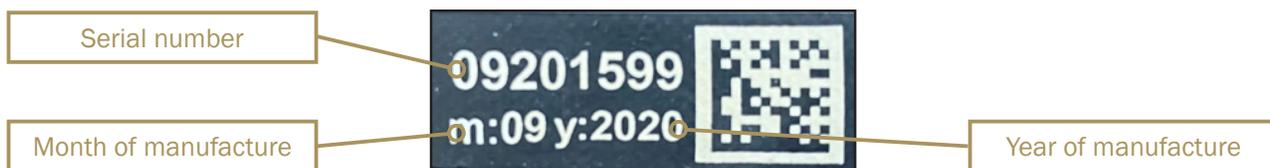

Figure 6.4: Serial number of SAVA lifting bag.
The example in Figure 6.4 shows a SAVA lifting bag manufactured in September (09) 2020 (20).